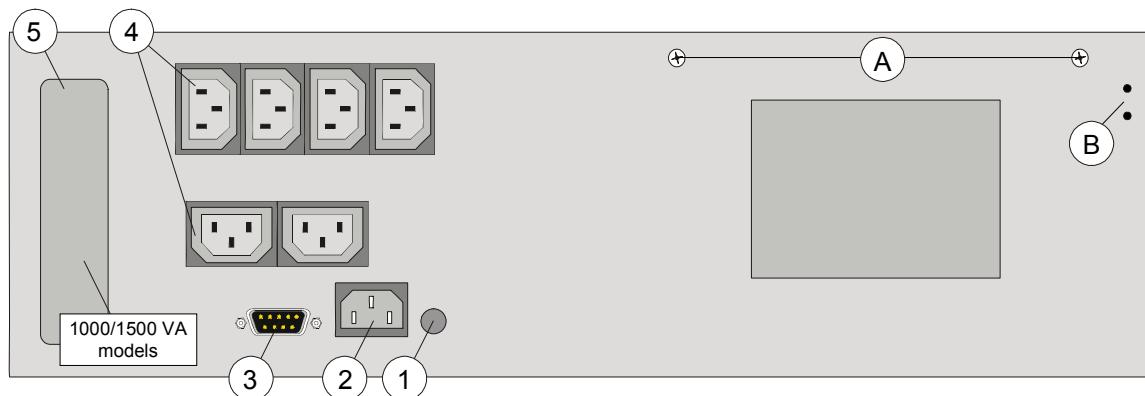
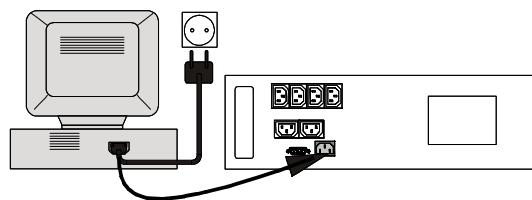
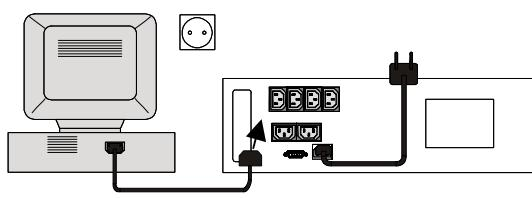

fig. 1
fig. 2
fig. 3
- During transport the battery drawer must either be removed or fixed with two screws at the rear side of the UPS (A, fig. 1).
1. Remove the transport screws (A, fig. 1) and store them in the free holes (B, fig. 1). Mount the Match 19" UPS in the 19" rack. The module must be supported by mounting rails, do not mount it by using the front brackets only. The front brackets allow mounting of handles (not included).
4. Disconnect the power cord from the computer (rating 250Vac/10A) and connect this cord to the mains input socket (2, fig. 1) of the UPS. See fig. 2.
5. Using the output cord(s) provided, connect the computer(s) to the appliance outlet(s) (4, fig. 1) of the UPS. Spread the loads over the appliance outlets as equally as possible. If you use a distribution box to connect more than one appliance per outlet, please note that the maximum AC-current rating of each appliance outlet is 10Amps. See fig. 3.
8. For advanced communication possibilities, the RS232 interface port (3, fig. 1) can be connected to a computer system and/or optional interface cards (5, fig. 1, 1000/1500VA models only) can be added. See chapter 4.